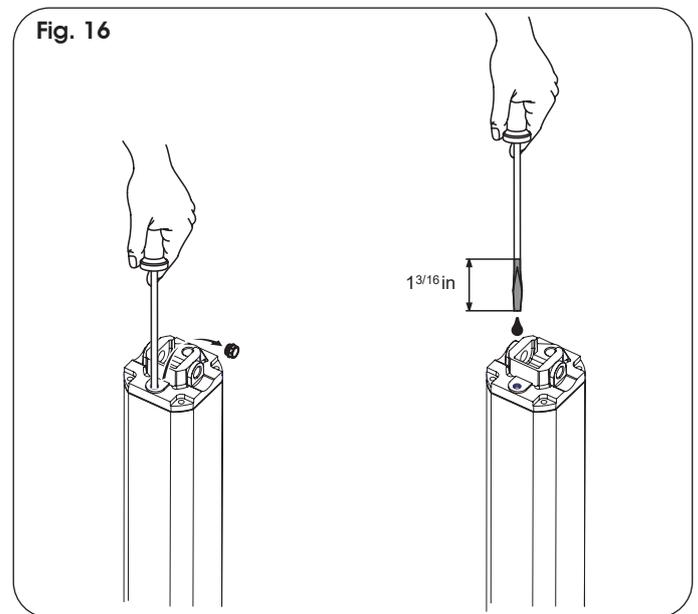

Fig. 16
- Insert a screwdriver until it comes into contact with the electric motor as shown in Fig. 16.
- Remove the screwdriver and check oil level as shown in Fig. 16.